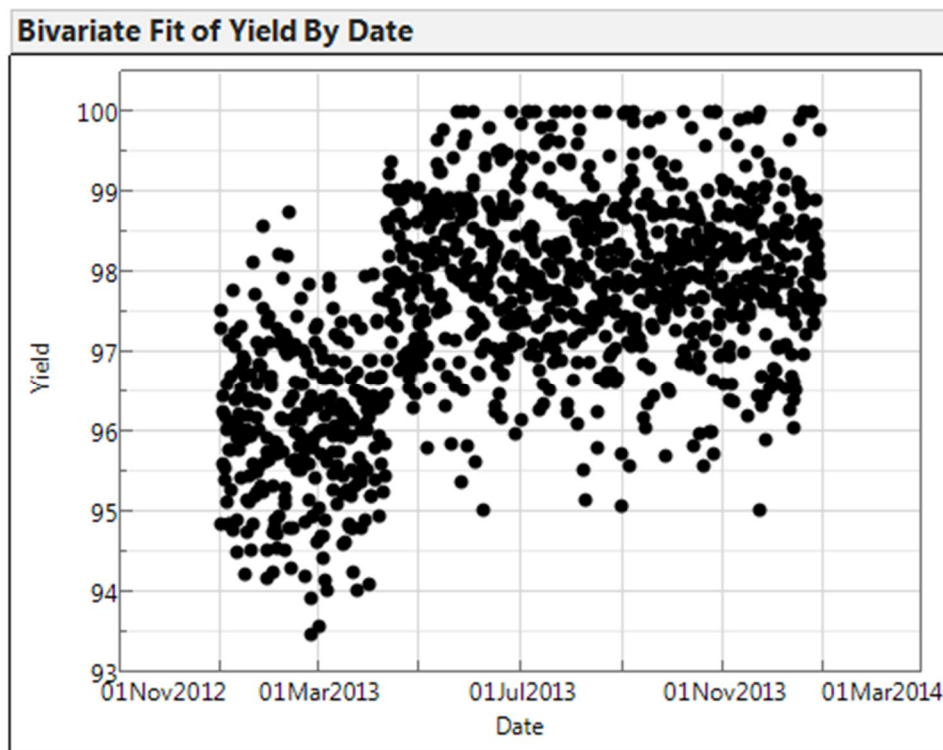
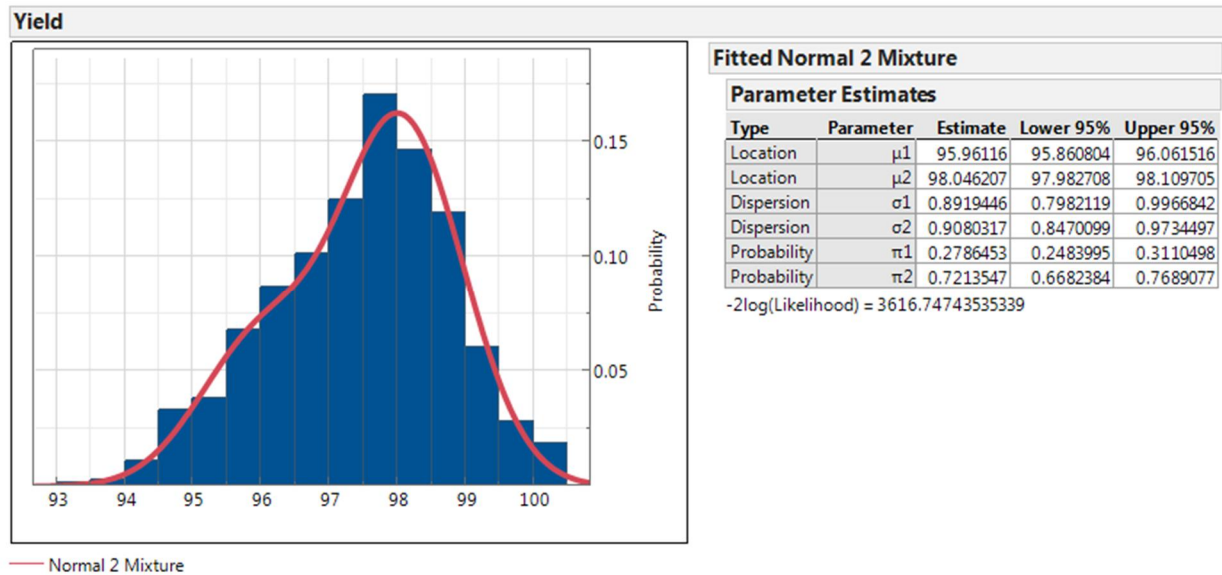

Figure 1 Raw Yield Data over Time
Figure 24 Yield Data with Normal 2 Mixture Fit
The following example is a randomly generated data set consisting of three Yield values per day for a year. We often encounter this type of data when examining Yields per shift. In order to show several of the powerful point and click graph customizations available, I'll take more steps than I usually would. Let's begin by using one of the workhorse platforms of JMP, "Fit Y by X". After plotting Yield (Y) against Date (X), see Figure 1, it's clear that a step-change is evident in the plotted raw data. Let's suppose we wish to narrow in on an approximate change point in time and show our findings graphically. From this initial graph, we can see that between the beginning of March and the end of June there was an increase in yield.
graph customization is to add custom distribution density curves such as historical distributions to graphs. For this example I'll return to the yield data shown in Figure 1. Clearly a single distribution fit will not work with these data, because there are in fact two distributions. In the distribution platform we can make a histogram of the yield data and fit a Normal 2 Mixture distribution. This distribution is actually a combination of two Normal distributions scaled such that the total area under the combined distribution curve is 1. Figure 24 shows that JMP determined that 27.9% of the data came from a Normal distribution with a mean of 95.96 and a standard deviation of 0.8919, and (100%-27.9% =) 72.1% of the data came from a Normal distribution with an average Yield of 98.0 with a standard deviation of 0.9080.